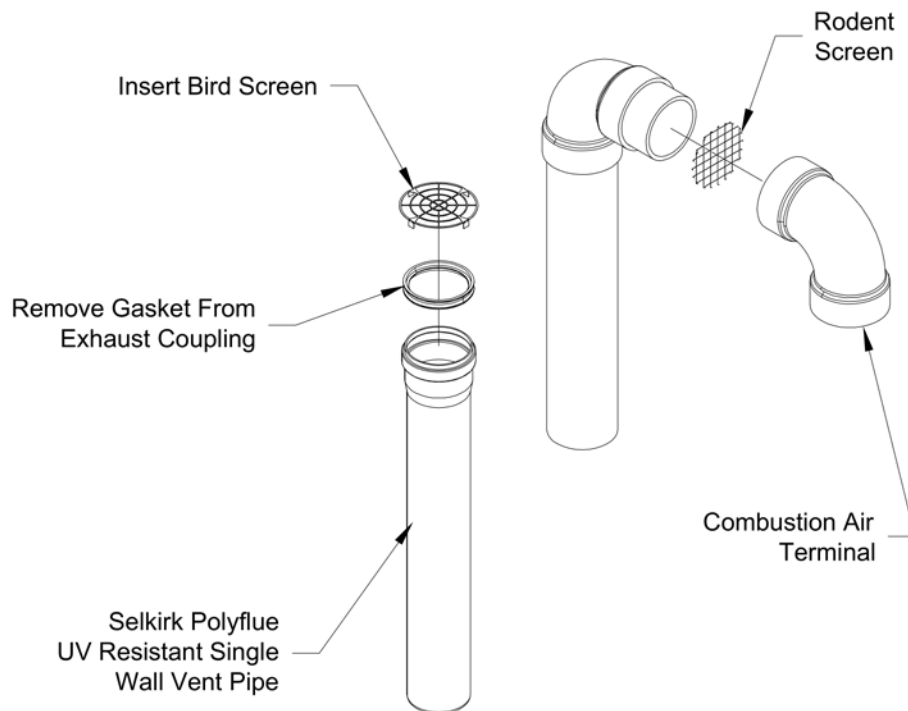

Figure 7.42: Installation of Selkirk Polyflue UV Resistant Single Wall Vertical Terminal
- a. See Figure 7.42 for the proper orientation of twin pipe vertical terminals.
- c. A 180° bend (or two 90° elbows) are installed on the top of the air intake pipe. If two 90° elbows are used, the rodent screen provided can be installed between them (Figure 7.42). If a 180° bend is used, install the rodent screen in the open side of the bend, using a ring made of PVC pipe. If desired, the termination fittings can be attached to the end of the intake pipes with field supplied stainless steel screws so that they can be later removed for cleaning and inspection. If this is done, drill a clearance hole in these fittings and a tap hole in the end of the intake pipes to accept these screws.